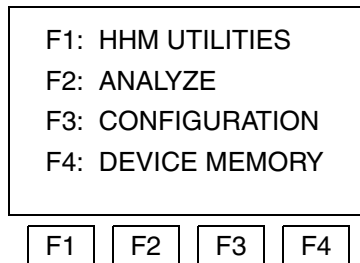

Figure 108. Home Menu
- Press F4 (ok) to access the Home menu, Figure 108.